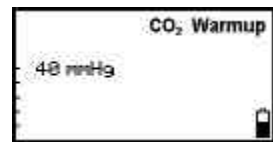

Figure 10-3: Measuring Mode
6. After initialization, the monitor automatically goes to Measuring Mode. The message **CO₂ Warmup** appears on the Silent Advisory Message area, refer to Figure 10-3.